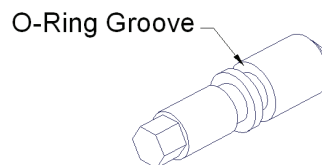

Figure 4.M.11.6-1 Bypass Plug
6. Thread both bypass plugs into the solenoid plate. Once the hex protrudes through the plate enough, use a hex head screw driver and thread the plug in until it bottoms into the plate. If this is not done the plugs will keep this plate from mounting properly later in the following steps. Feed solenoid wires through solenoid plate and engage manifold according to Figure 4.M.11.4.